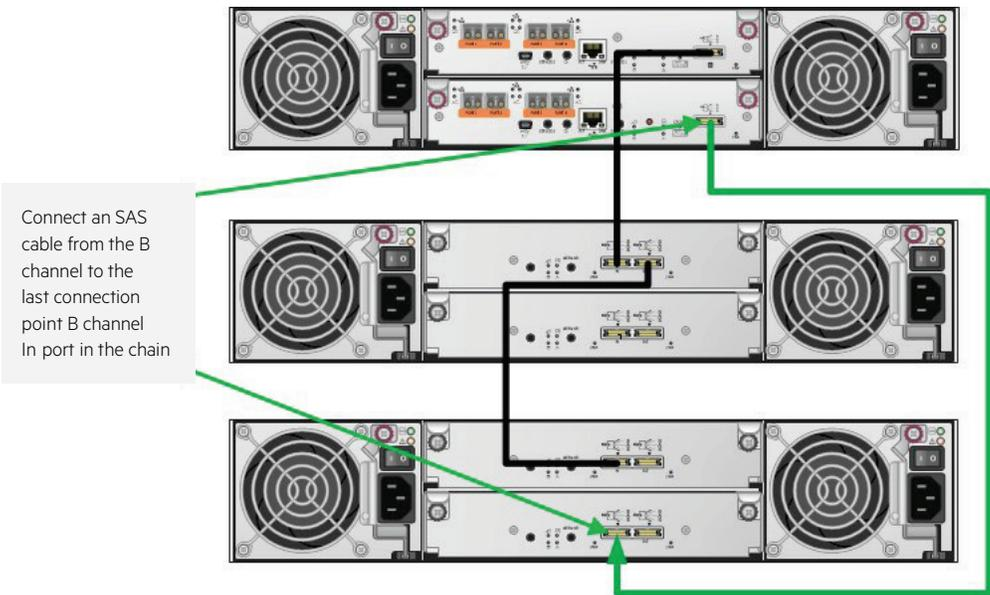

Figure 32. Initial B channel cabling configuration
6. Connect an SAS interconnect cable from controller B on HPE MSA 1050/2050/2052 Array Enclosure to the last **In** port B channel on the Disk Enclosures as indicated in **Figure 32**.